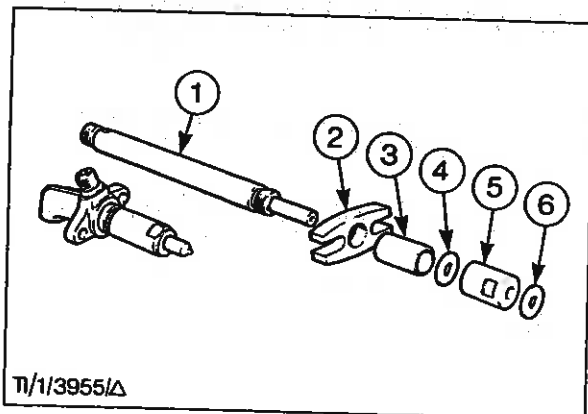

Fig. 7 - Tester Components
3. Select the 25 mm (1.0 in) long x 20 mm (13/16 in) diameter adaptor, and the 38 mm (1.5 in) long spacer. Select a suitable copper sealing washer for the stem assembly, and for the adaptor. Assemble the components as shown in Fig. 7 and check: